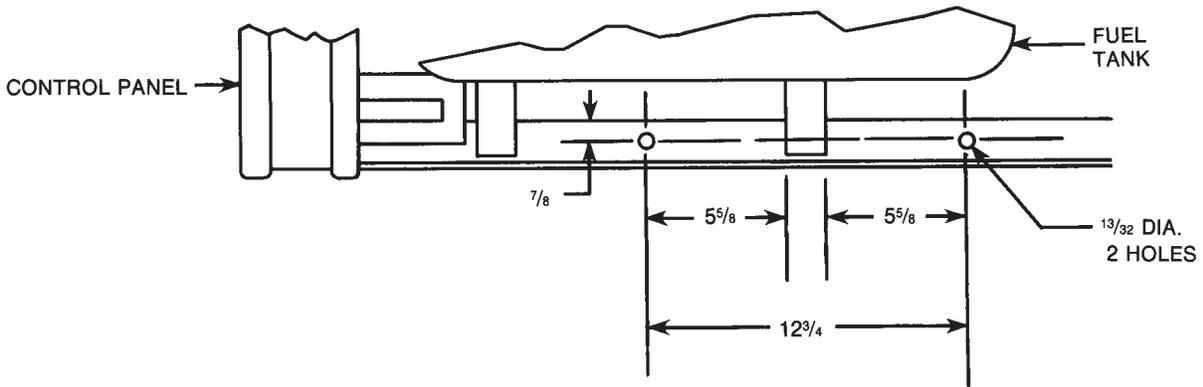

FIGURE 8 – Fuel Tank as Viewed from Top.
- Drill two holes in fuel tank rail opposite output terminals as in Figure 8, if holes are not in unit.